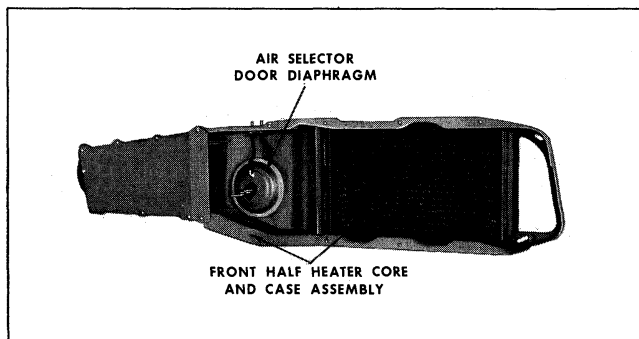

Fig. 4-7 Heater Core and Case
4. Disconnect two vacuum hoses at diaphragm connections (Fig. 4-7).